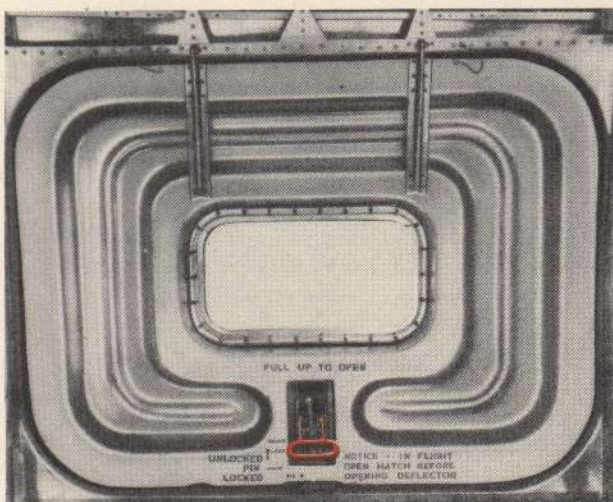

Figure 29—Side Gun Window
b. **SIDE GUN WINDOWS.**—The side gun windows (see figure 29) are located in the rear fuselage compartment, left and right sides. There is an outside and inside latch on the bottom center of each window. These windows swing inward and upward and may be fastened in the full open position by a catch attached to the fuselage. These windows may be used as emergency exits on the ground, in flight, or in the event of a forced descent on water (DITCHING).